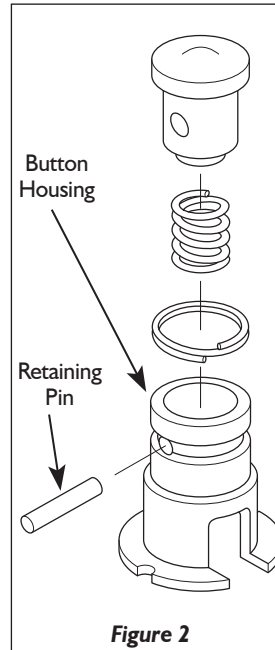

Figure 2
2. Locate the retaining pin underneath the O-Ring. Using the dental pick, push the pin out through the button housing (see Figure 2)